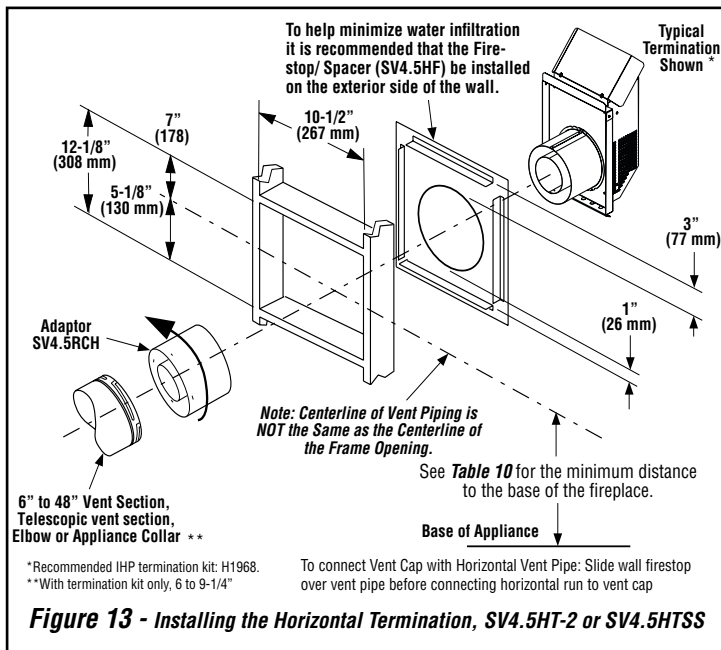

Figure 13 - Installing the Horizontal Termination, SV4.5HT-2 or SV4.5HTSS
4. Carefully determine location where vent pipe assembly will penetrate outside wall. Mark center line of pipe on wall. Mark wall for a 12-1/8" x 12-1/8" square hole, where bottom of square starts 5-1/8" below center line of pipe (see **Figure 13**). This will provide the 3" minimum spacing needed on top of horizontal pipe. Cut and frame 12-1/8" x 12-1/8" rectangular hole in exterior wall where vent will be terminated. If wall being penetrated is constructed of noncombustible material, such as masonry block or concrete, an 8" hole with zero clearance is acceptable.